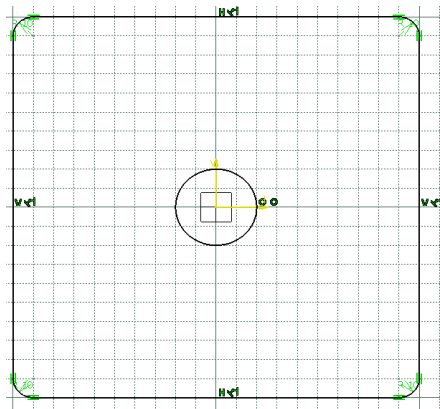

Figure 3-46 The sketch after drawing the circle
- c. Draw the inner loop of the sketch using the **Circle**, **Elongated Hole**, and **Cylindrical Elongated Hole** tools, refer to Figures 3-46 through 3-48.
2. Move the cursor horizontally toward the right and specify a point on the circle when the value of the radius is displayed as 20 in the **R** edit box. The sketch, after drawing the circle, is shown in Figure 3-46.